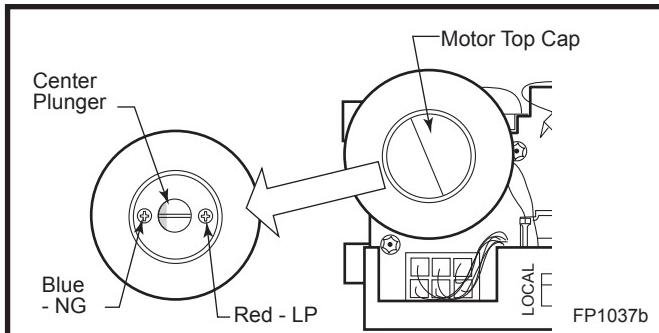

Fig. 83 Depressd and turn center plunger.
4. Remove motor top cap. Depress and turn center plunger until arrow points to correct screw. Red for LP and Blue for NG. **NOTE:** Plunger will "snap" into NG position when arrow is close to blue screw. It will not "snap" at LP (Red) position. (Fig. 83)